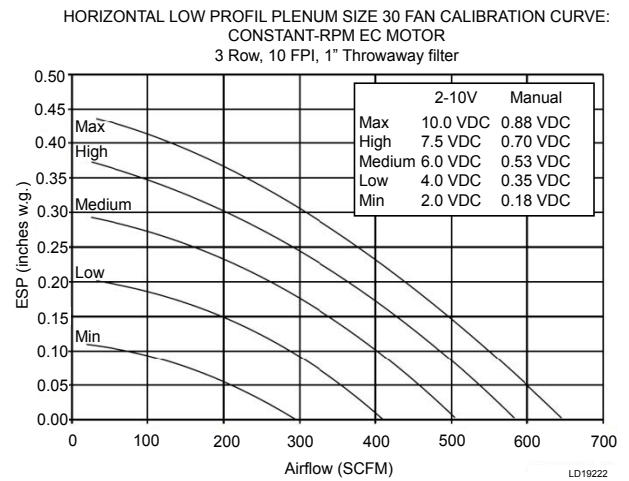

FIGURE 14 - CONSTANT RPM AND CONSTANT TORQUE EC MOTORS EXAMPLE FAN CALIBRATION CURVE
- a. Constant RPM EC Motor. Refer to *Figure 14* on page 27 for sample label. Five curves are shown, showing factory default airflow for Minimum, Low, Medium, High, and Maximum speeds. A table is provided which shows the expected voltage across test points TP1 and TP3 for each speed, depending on whether the unit is set up for three speed or 2 – 10 VDC motor control.